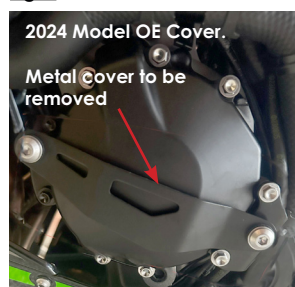

Fig. 2
- Retain 2 x OEM M6x30 flanged bolts from the OE cover and move them from positions shown in Fig. 2 to the positions shown in red in Fig. 3.